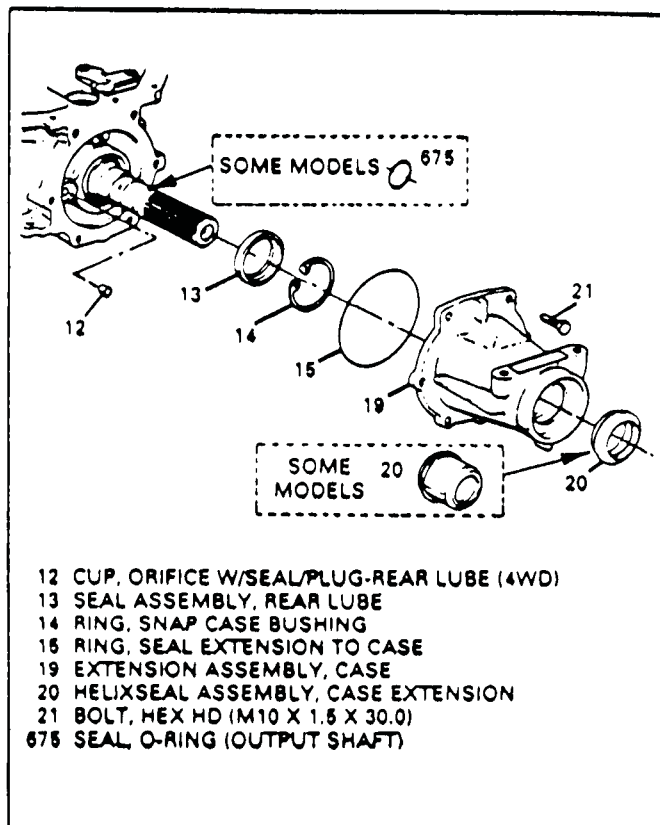

Figure 128
1. Inspect for presence of orificed cup plug (12) (See Figure 128).
2. Make sure that rear lube seal (13) and snap ring (14) are in place. (See Figure 128).
3. Install a new extension housing seal using the proper seal driver (See Figure 128).
4. Install new "O" ring seal onto the extension housing (See Figure 128).